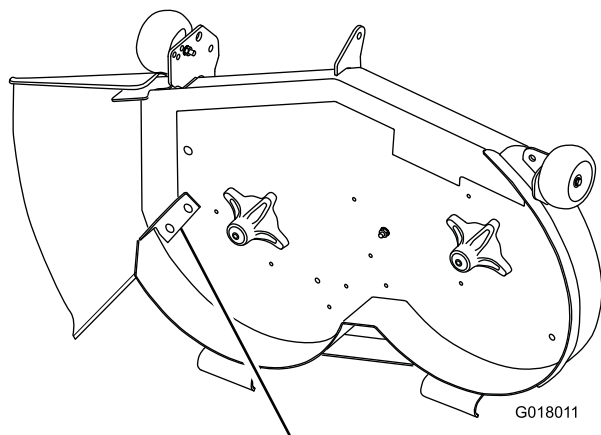

Figure 1
5. Locate the cutoff baffle at the side-discharge opening on the mower deck (Figure 1).